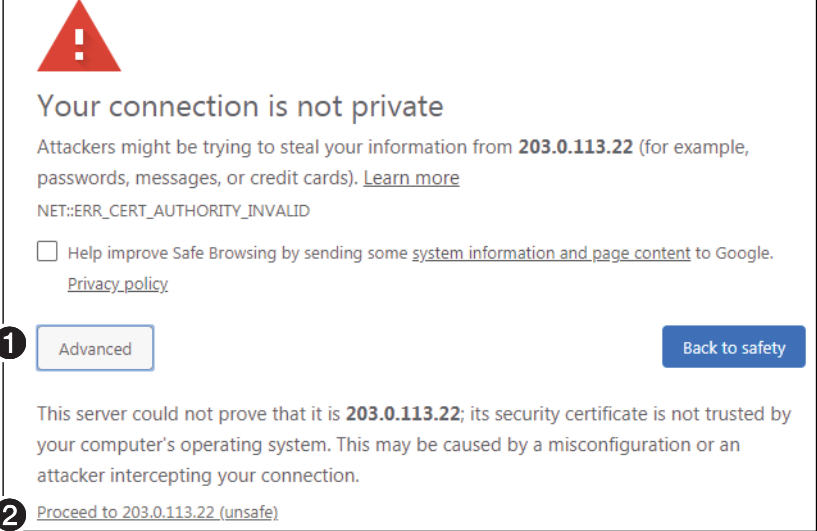

Figure 10. Privacy Notification
- If you do not have the trusted SSL Certificate, the browser displays a privacy notification (see figure 10). Continue to the login dialog box as follows: